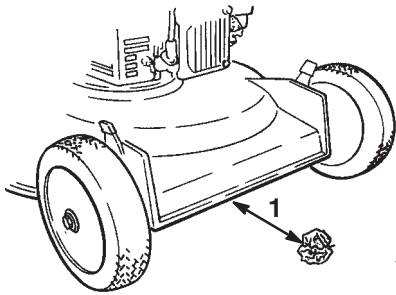

Figure 11
5. Take a half sheet of newspaper and crumple it into a ball small enough to go under the deck (about three inches or 76 mm in diameter) as shown in Figure 11.
6. Place the ball of newspaper five inches (12.7 cm) in front of the lawn mower (Fig. 11).